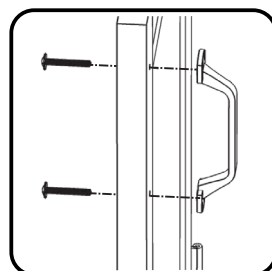

Figure 7
Attach Pull Handles to Doors (V) and (W) with Machine Screws. (See Figure 7)